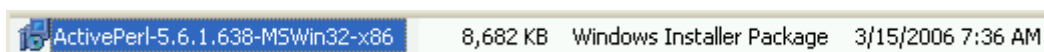

Figure 11-17 ActivePerl installation
3. After the file has been downloaded, double-click the installer file to begin installation (Figure 11-17).